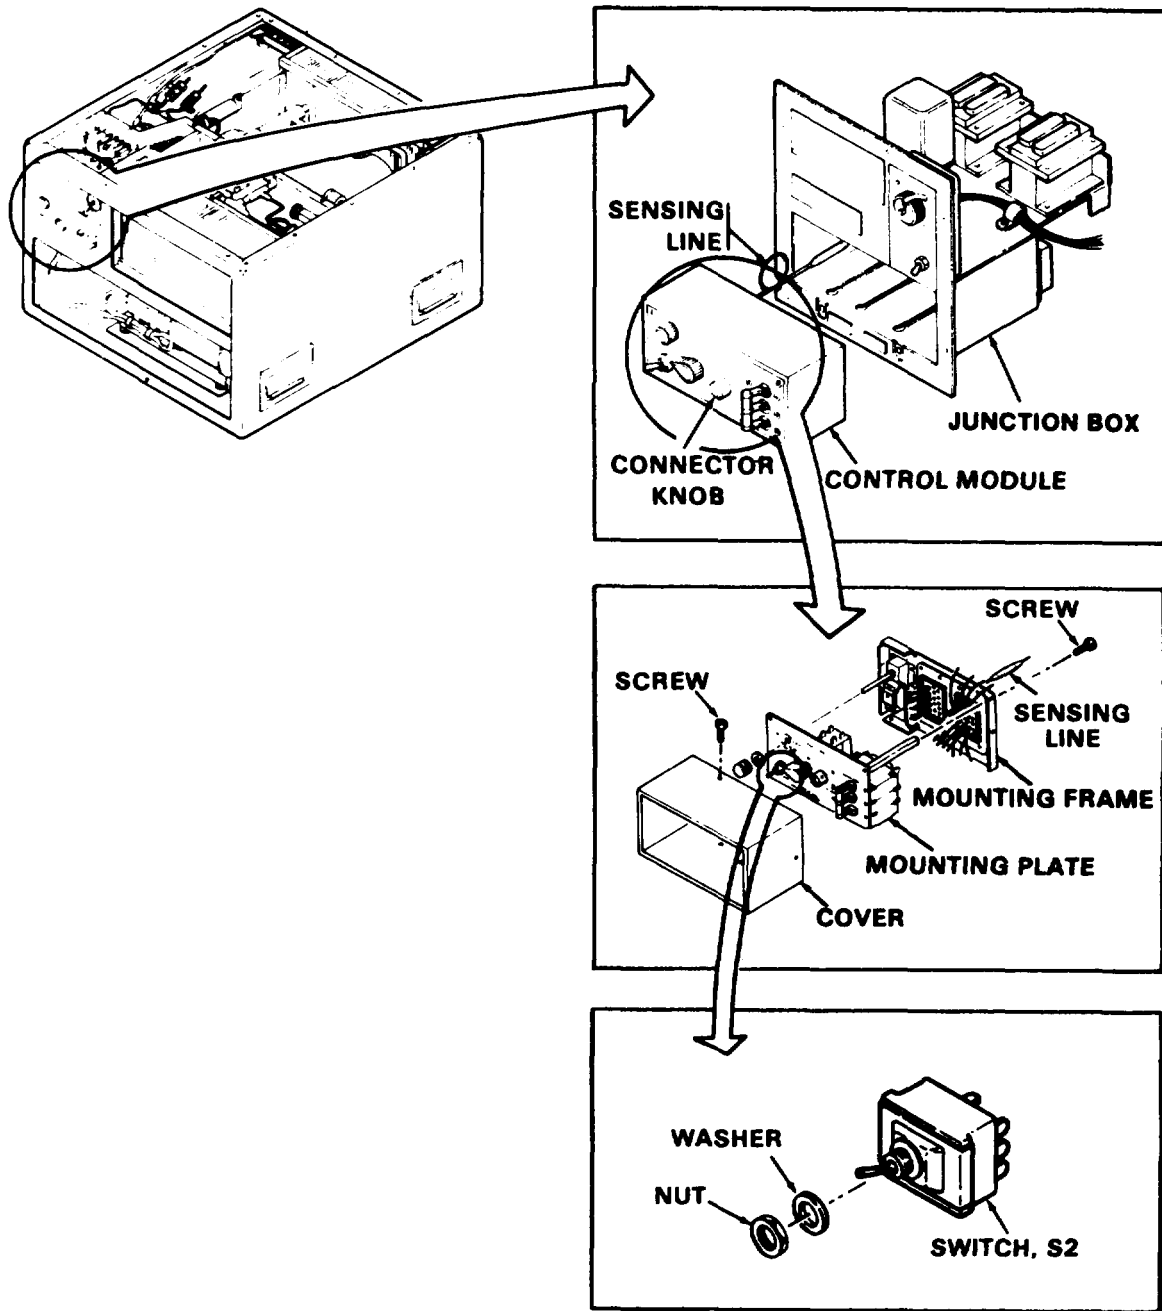

Figure 4-11. Evaporator Fan Switch. (S-2)
(1) Remove control module per paragraph 4-27
(2) Refer to figure 4-11 and remove the evaporator fan speed switch.
(1) Refer to figure 4-11 and install the evaporator fan speed switch.
(2) Refer to para 4-27 and install the control module.
(4) Temperature Control Switch (S-3)